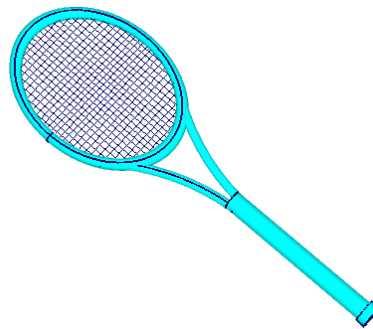

Figure 3-86 Model after diagnostic shading
2. Choose the **User Defined Texture Diagnostic Shader** tool from the **Diagnostic Shade** dialog box; the model gets shaded, as shown in Figure 3-86.